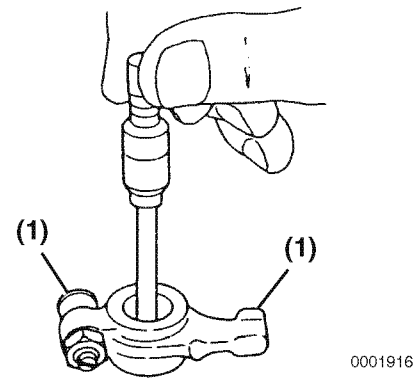

Figure 6-16
Use a test indicator and micrometer to determine if the inside diameter of all the rocker arm support brackets and the rocker arms (**Figure 6-16**) are within the specified limits. See *Rocker Arm and Shaft* on page 6-7 for the service limit.
Inspect the contact areas (**Figure 6-16, (1)**) for excessive wear or damage.